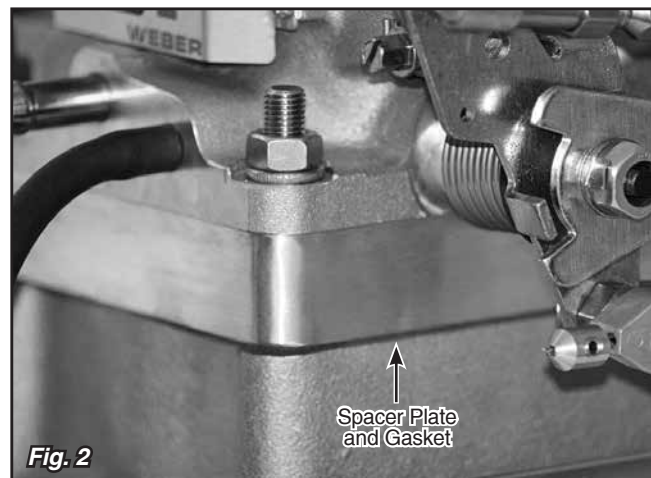

Fig. 2
Step 2: Install the four 5/16" x 2-1/4" studs that came with the Lokar Bracket Kit into the intake manifold. Place the provided new gasket onto the intake manifold, making sure that it is oriented the correct way. Then, place the spacer plate onto the intake manifold, making sure that the throttle cable bracket mounting holes are positioned at the left rear corner of the spacer plate. Install a second gasket (not included) on top of the spacer plate, and reinstall the throttle body using the provided 5/16" hex nuts and internal star washers. **Fig. 2**